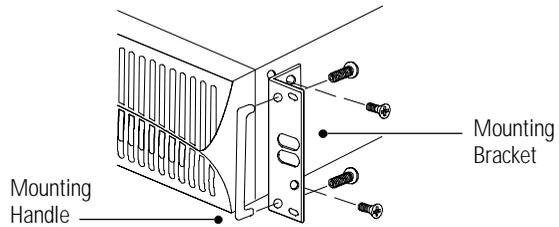

Figure 1. Installing the Mounting Brackets
2. Attach the mounting handles to the bracket with the screws provided in the accessory kit (see Figure 1).
3. Align the mounting brackets with the screw holes on the side of the UPS and secure with the supplied screws (see Figure 1).